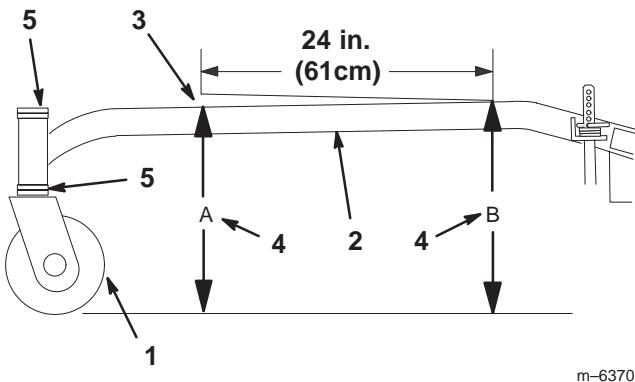

Figure 68
The carrier frame must have a pitch of a 1/4 inch (6 mm) over the length of 24 inches (61 cm) on the carrier frame (Fig. 68).
1. Measure out 24 inches (61cm) on the carrier frame (Fig. 68).
2. Measure carrier frame height at location **A** (Fig. 68).
3. Measure carrier frame height at location **B** (Fig. 68).
4. The height at location **A** must be a 1/4-3/8 inch (6 mm –10 mm) lower than location **B** (Fig. 68).
5. If the carrier frame is not correct, move caster spacers to make it a 1/4-3/8 inch (6 –10 mm) pitch (Fig. 68). Move spacers from top or bottom to make the correct pitch.